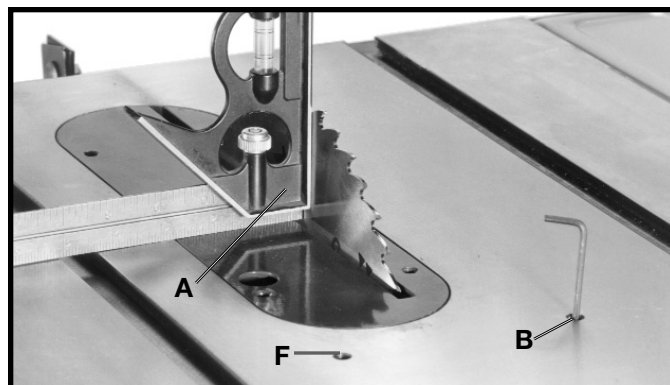

Fig. 45
4. Using a combination square (A) Fig. 45, check to see if the blade is at 90 degrees to the table surface as shown.
5. If the blade is not at 90 degrees to the table, loosen set screw (B) Fig. 45 with a hex wrench, and turn the blade tilting handwheel until you are certain the blade is at 90 degrees to the table. Turn set screw (B) clockwise until it bottoms.
8. If the blade is not at 45 degrees to the table, loosen set screw (F) Fig. 45, and turn blade tilting handwheel until you are certain the blade is 45 degrees to the table. Turn set screw (F) clockwise until it bottoms.